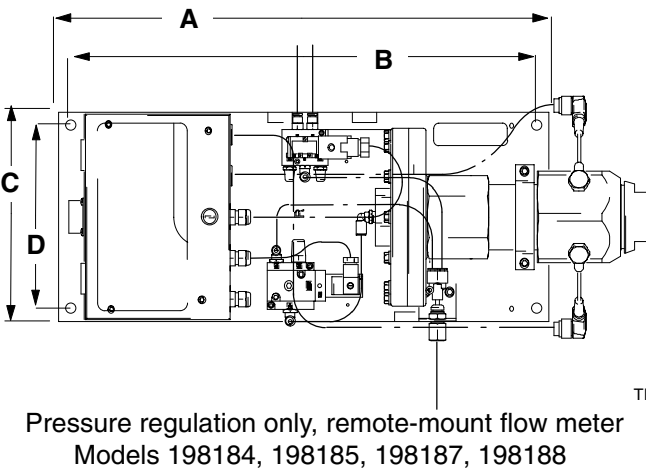

Fig. 7
3. See the mounting dimensions for the pressure/flow regulating system in Fig. 6 and for the remote-mount flow meter in Figs. 7 and 8.